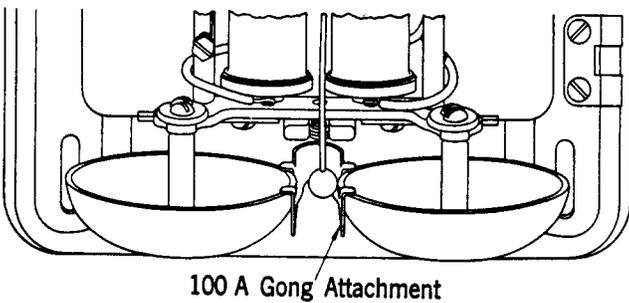

Fig. 8 - 100A Gong Attachment on Ringers of Types 6, 7, 8, 42, 48, and 52
4.04 Figs. 8, 9, and 10 show procedures and methods recommended for the installation of gong attachments on numbered-type ringers. The 100B gong attachment may be used in place of the 100A gong and installed in a similar manner except for type shown in Fig. 8 where the open end shall be toward the base of the subscriber set.